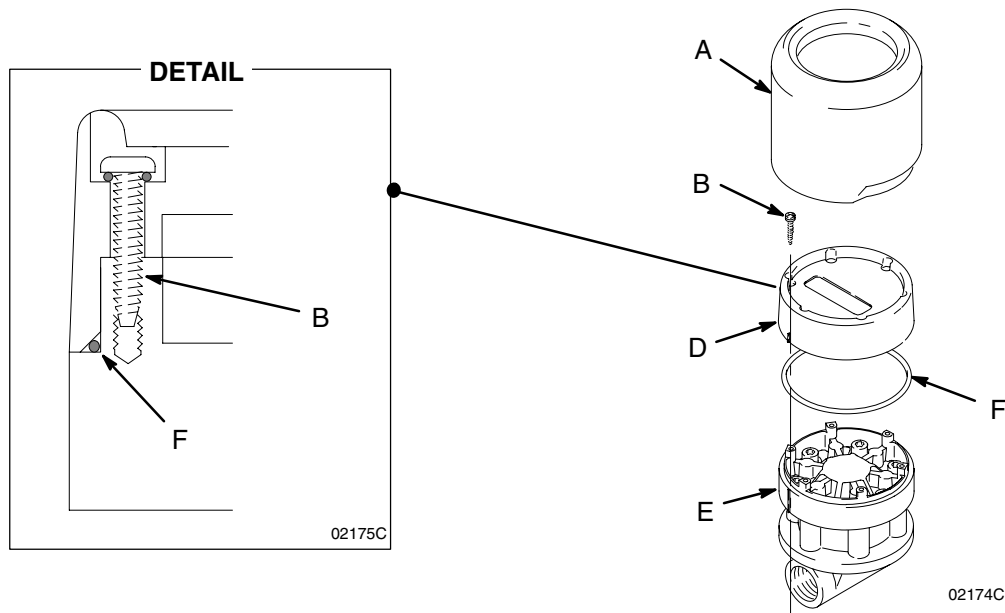

Fig. 1
3. Lift the bottom edge of the black cover (A) away from the meter, and pull the cover off. Remove and discard the screws (B). Lift off the electronic control (D). Remove and discard the large o-ring (F), if one is used. See Fig. 1.
4. Install a new electronic control (D). Install the large o-ring (F) over the lip on the top of the metering unit (E). Align the notch on the side of the electronic control (D) with the notch on the side of the metering unit (E). Install the new screws (B), and tighten them oppositely and evenly 3 in-lb to 5 in-lb (0.34 N-m to 0.57 N-m) until a complete seal is obtained, as shown in the DETAIL in Fig. 1.